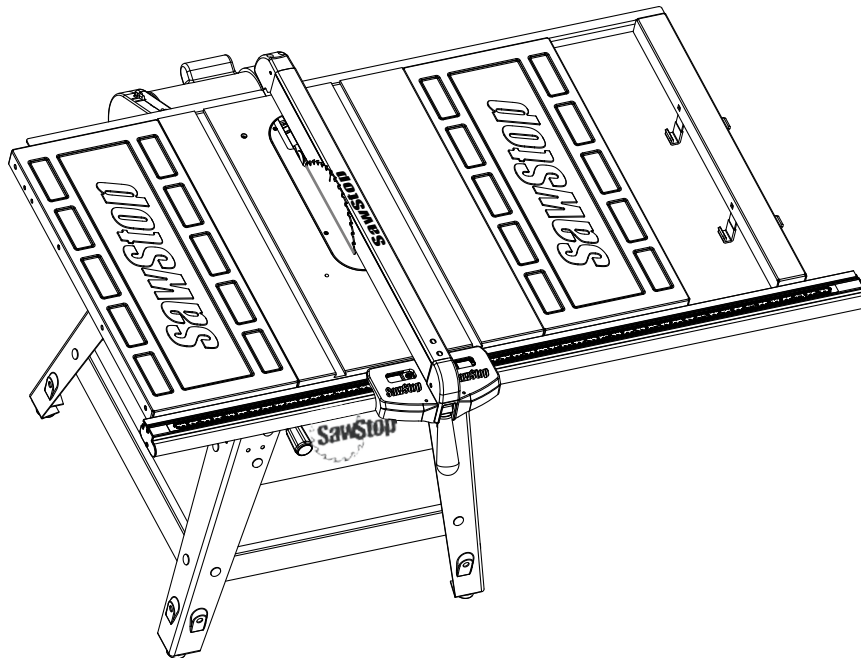

Fig. 14
14. To determine the final placement of the front rail, raise the saw blade and position the fence so that the left side of the fence rests against the right side of the saw blade (see Fig. 14).